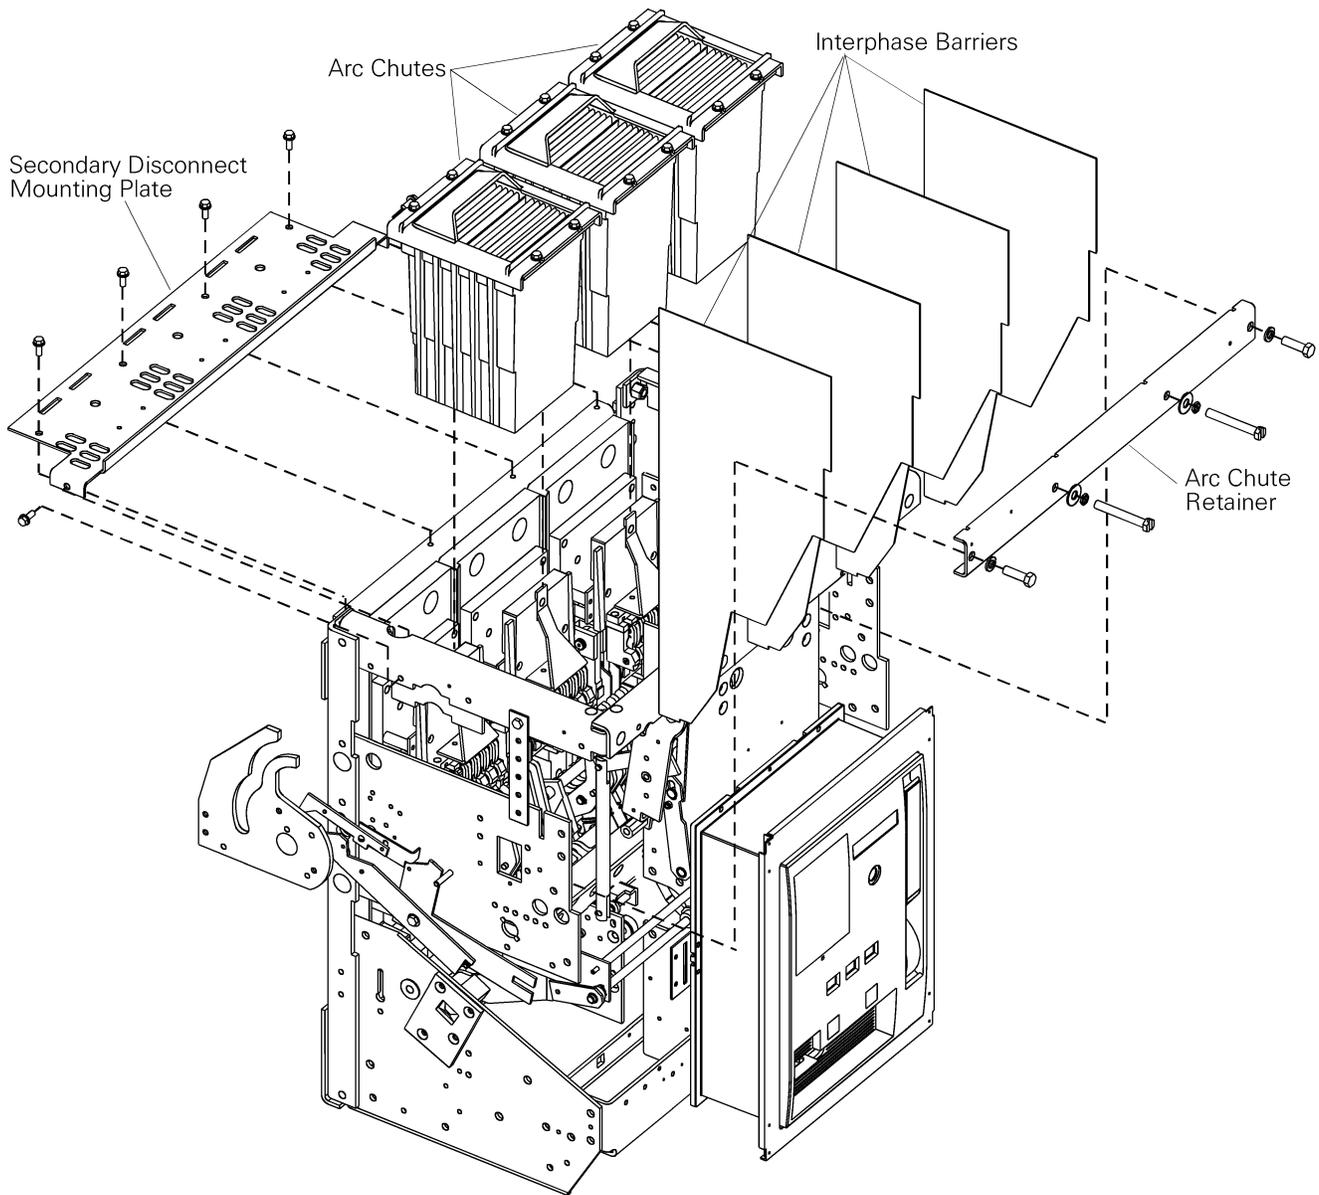

Figure 7. Removal of the interphase barriers, arc chutes, and secondary disconnect mounting plate.
3. Remove the six screws securing the secondary disconnect mounting plate to the back frame, then remove the mounting plate, as illustrated in Figure 7.
4. Remove the four screws securing the arc chute retainer bar and remove the bar, as illustrated in Figure 7. Lift out the four interphase barriers, then lift out the three arc chutes.
14. Replace the four arc chute interphase barriers into their slots, as illustrated in Figure 7.
15. Slide the arc chutes into place, with the slots over the movable contact arms. Replace the arc chute retainer bar and secure it with four screws and washers, as illustrated in Figure 7.
16. Attach the secondary disconnect mounting plate to the breaker with its six screws, as illustrated in Figure 7.
2. Remove the four screws securing the arc chute retainer bar and remove the bar, as illustrated in Figure 7.